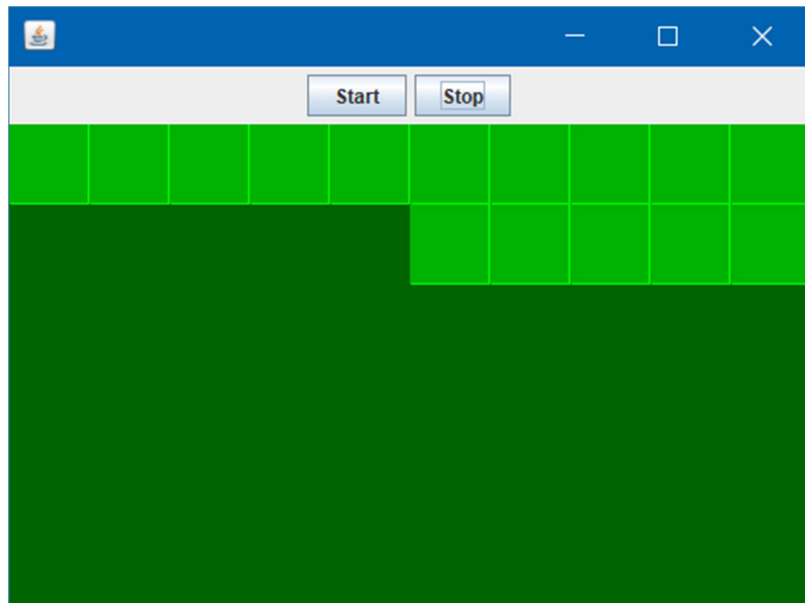

Figure 1: A lawn-mower simulator is cutting a lawn
3. Produce a design of the application shown in Figure 1 that applies the state pattern and the observer pattern.